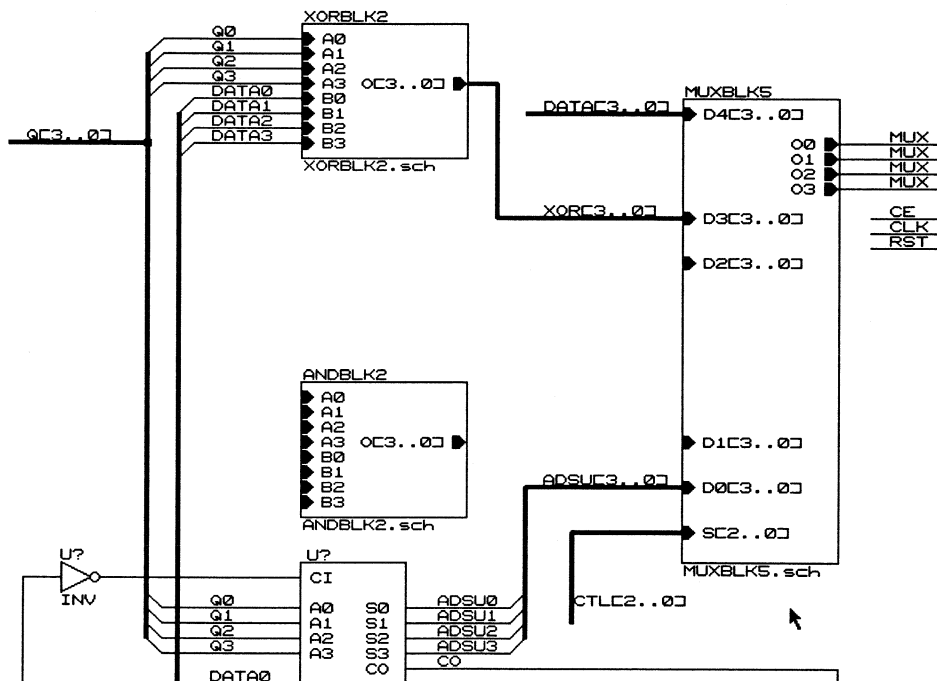

Figure 11-7 Completed ANDBLK2 Symbol in ALU Block
Now you are ready to begin creating the ANDBLK2 sheet symbol. As a guide, refer to Figure 11-7, which shows the completed symbol for ANDBLK2.
8. Similarly, add input pins for A2, A3, B0, B1, B2, and B3, in the locations shown in Figure 11-7